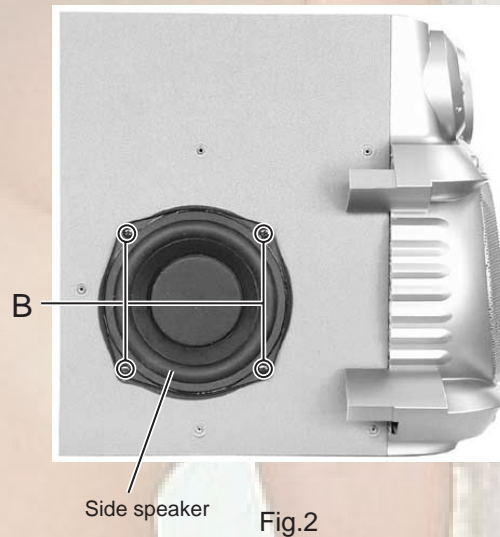

Fig.2
**■ Removing the side speaker (See Fig. 2 and 3)**